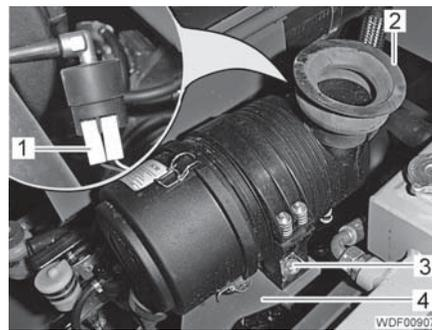

Fig. 86 Air filter
- Mark the position of the air filter (Fig. 86,2) on the mount (Fig. 86,4).
- Remove the 2 connectors (Fig. 86,1) from the vacuum gauge.
- Unscrew 1 screw (Fig. 86,3) on both sides.
- Put in the complete air filter (Fig. 86,2) and align it on the marking on the mount (Fig. 86,4).
- Screw in 1 screw (Fig. 86,3) on both sides and tighten.
- Attach the 2 connectors (Fig. 86,1) to the vacuum gauge.